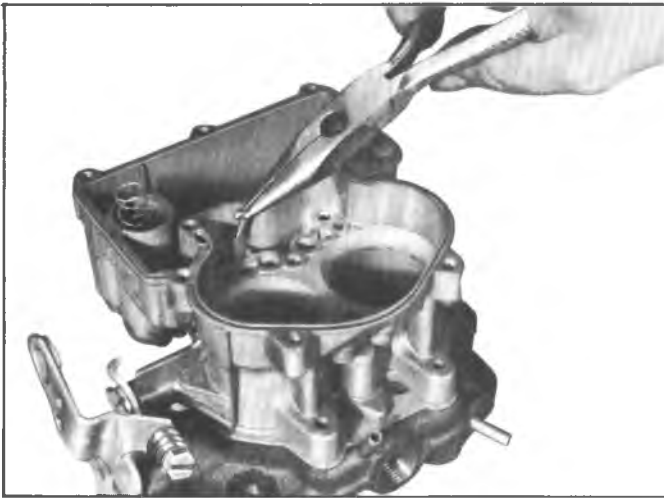

Fig. V4--Removing Pump Discharge Spring Retainer
4. Using a pair of long nose pliers, remove the pump discharge spring retainer (Figure V4). Then the pump discharge spring and check ball may also be removed.